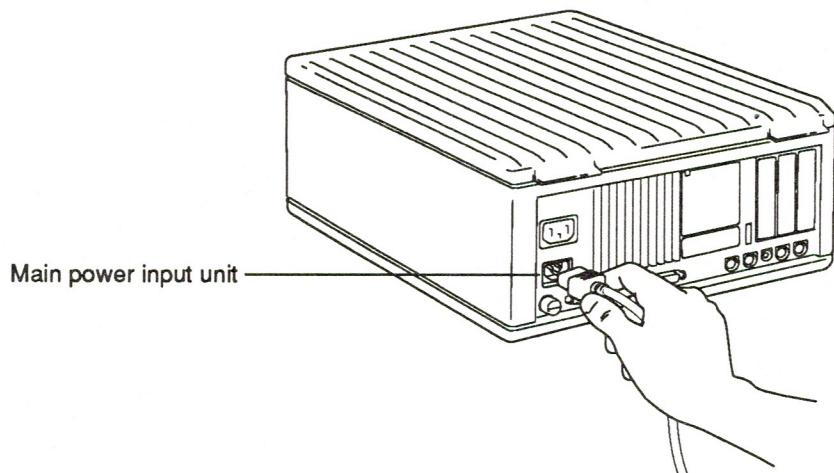

Figure 20. Plugging in the power cord
1. Plug the power cord into the main power input unit, which is below the power switch on the back of the Macintosh IIcx, as shown in Figure 20.